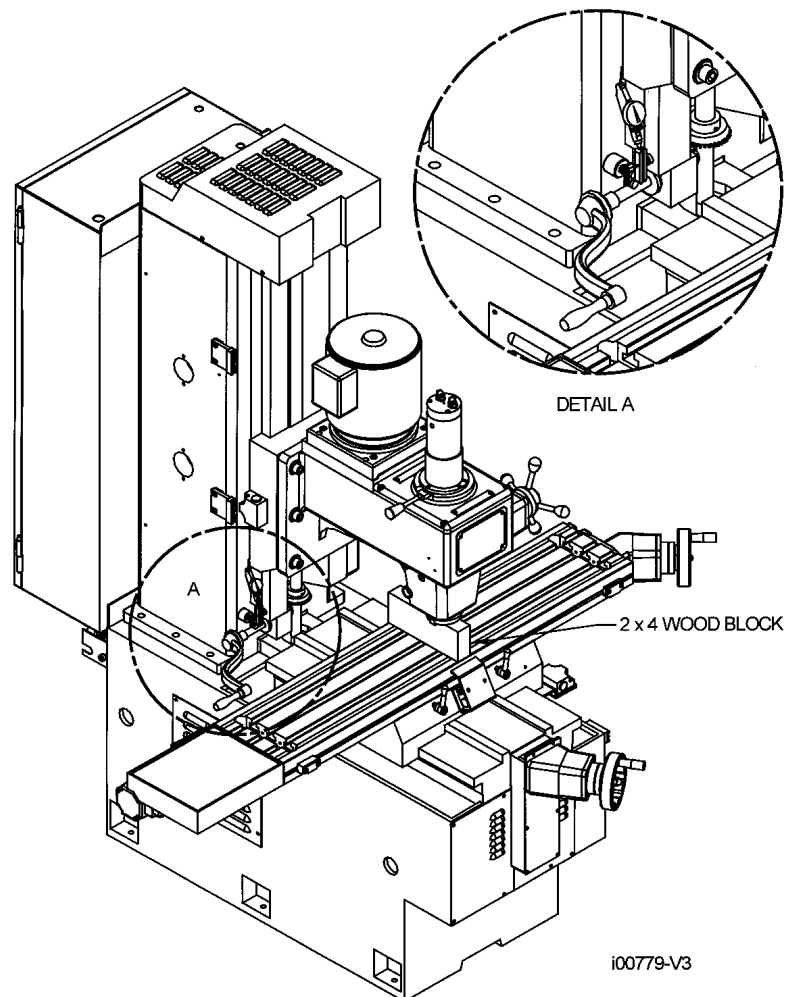

Figure 42
5.2.1.7 Ram Back Gib Adjustment, Z-Axis (see Figure 42)